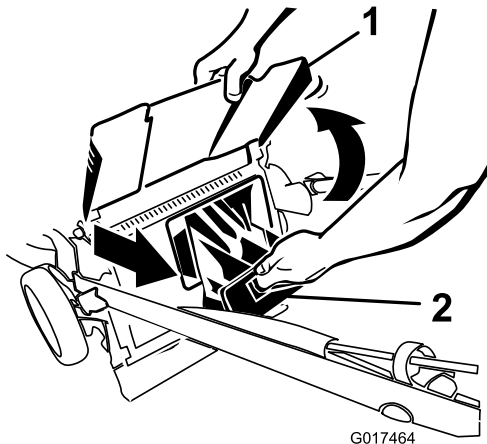

Figure 26
2. Raise and hold up the discharge deflector (Figure 26).
3. Pull out the rear-discharge plug (Figure 26).